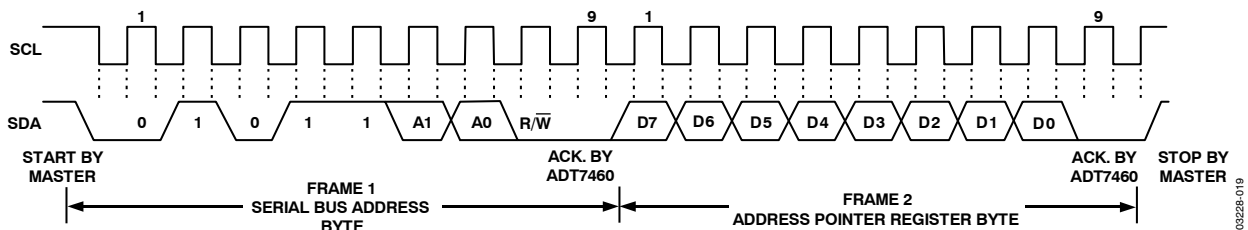

Figure 19. Writing to the Address Pointer Register Only
- If the ADT7460’s address pointer register value is unknown or not the desired value, it is first necessary to set it to the correct value before data can be read from the desired data register. This is done by performing a write to the ADT7460 as before, but only the data byte containing the register address is sent because data is not to be written to the register. This is shown in Figure 19.
- If the address pointer register is known to be already at the desired address, data can be read from the corresponding data register without first writing to the address pointer register, so Figure 19 can be omitted.